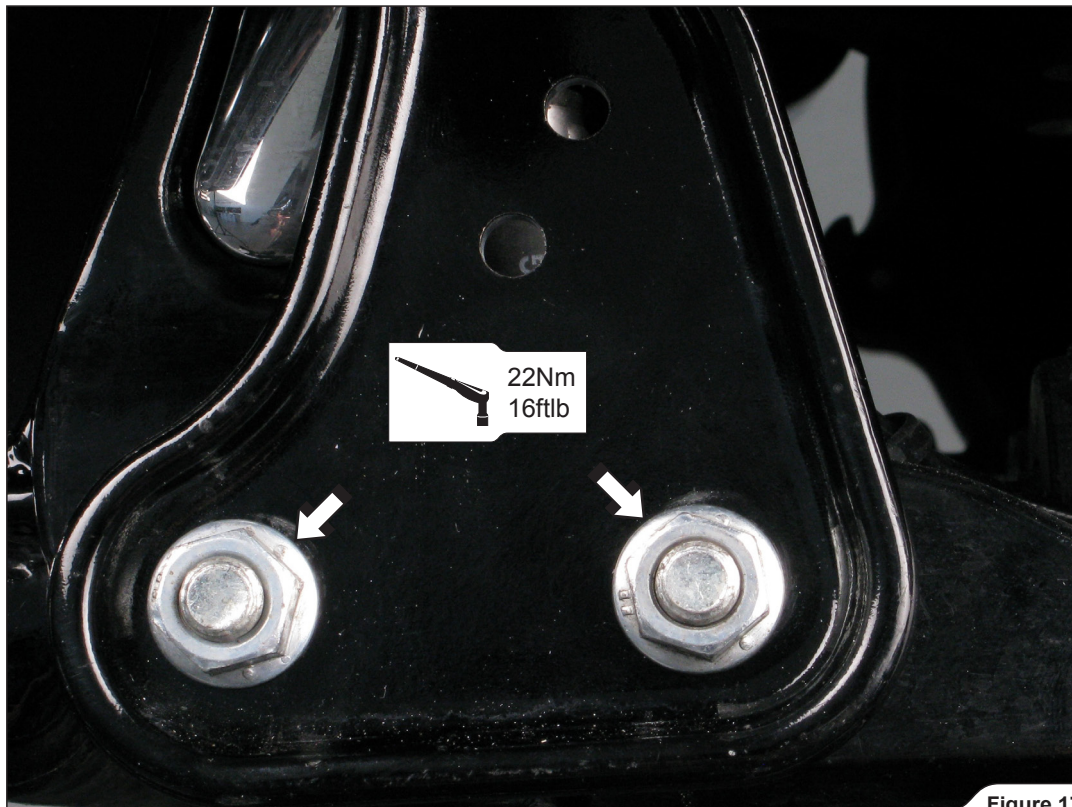

Figure 17
7. Tighten original bracket onto the chassis (Figure 17).